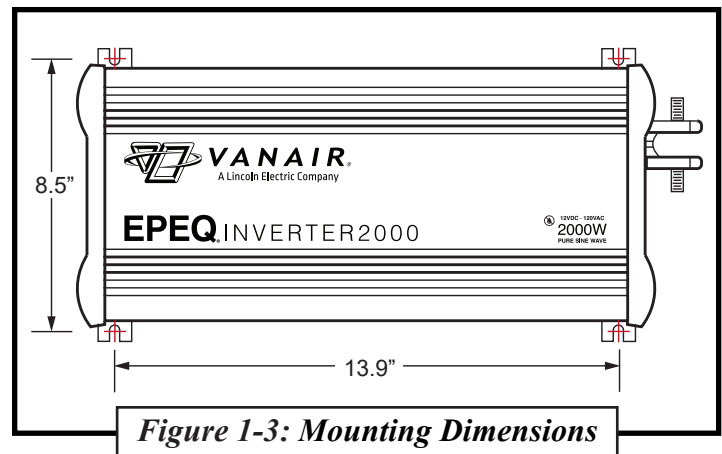

Figure 1-3: Mounting Dimensions
- Use the mounting dimensions below to mark the positions of the mounting screws. (See “*Figure 1-3: Mounting Dimensions*”).
- Drill four (4) mounting holes, place the inverter in position, fasten the inverter to the mounting surface.